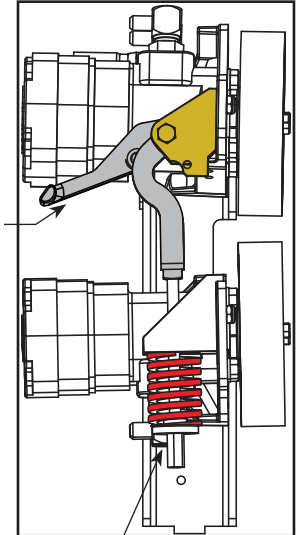

Figure 3. Secure Toggle Handle in Unclamped Position
2. Disengage the drive wheels by firmly grasping and pulling on the toggle handle (Figure 3).